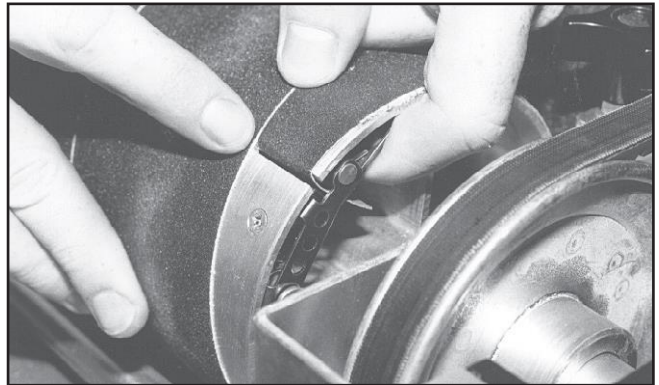

Fig. 16G Insert tapered end into inboard slot.
4. With the trailing edge of the strip properly cut, rewrap the drum and insert the tapered end through the slot in the right (inboard) end of the drum. Insert the tapered end into the inboard take-up fastener. Pull up on the clip lever to open the clip, and pull the take-up lever to the top as shown (Fig. 16G). After inserting the strip end, release the clip lever by moving your index finger toward the drum slot. This allows the clip to retain the abrasive while holding the take-up lever in an “up” position.